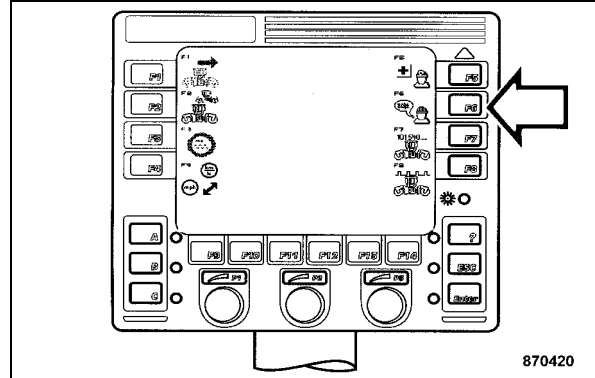

Fig. 86
- Press "F6" (Fig. 86) to change to the "Printer language" selection screen.